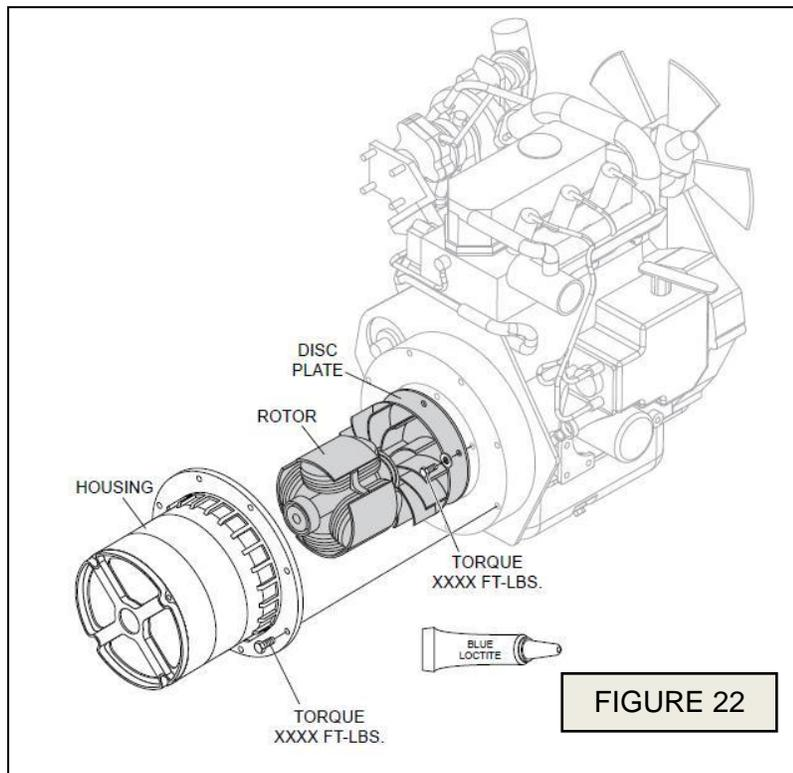

FIGURE 22
- Attach generator disc plate and housing to engine flywheel. See FIGURE 22.